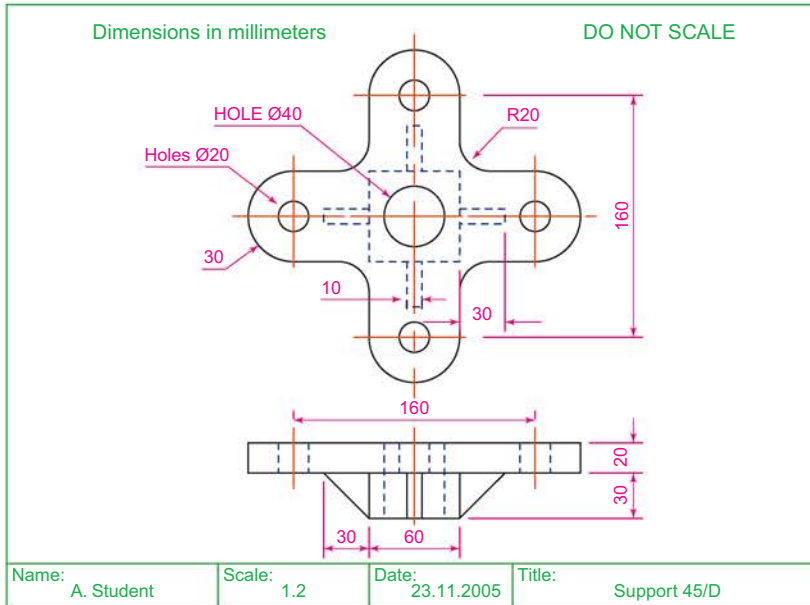

Fig. 10.7 First example – orthographic projection of the support
Fig. 10.7 shows a two-view orthographic projection of a support. To construct a **Scale 1:1** First angle 3D model of the support in a **Four: Equal** viewport setting on a layer colour **Blue**:
3. Using the **Polyline** tool, construct the outline of the plan view of the plate of the support, including the holes in the **Top** viewport (Fig. 10.7). Note the views in the other viewports.